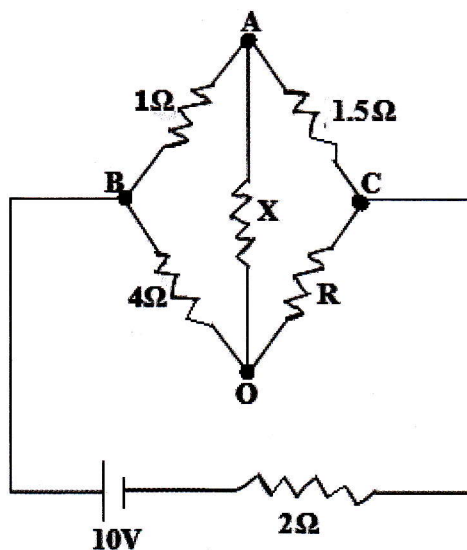

Figure 2
19. Determine the value of R and current through it in figure 2 below; if the current through branch AO is zero.